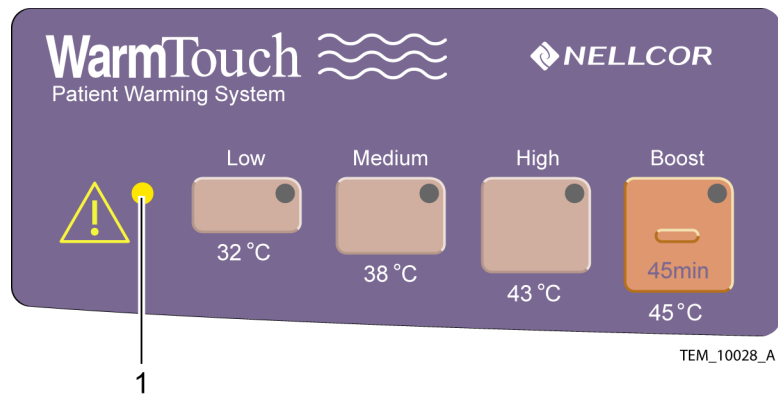

Figure 4-3. Warning Light
13. When the alarm starts to sound and the warning light indicator lights, stop the stopwatch. See Figure 4-3.